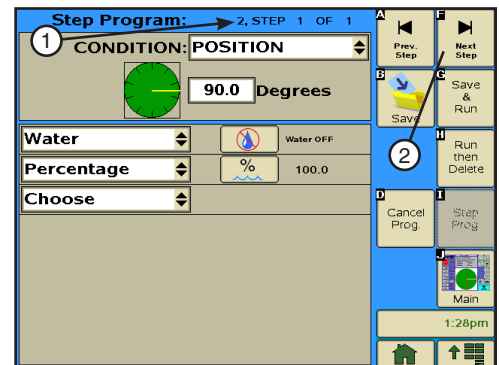

Figure 155-3 1. Step Program Identifier
5. Program the position condition for this step. Refer to Figure 155-3.